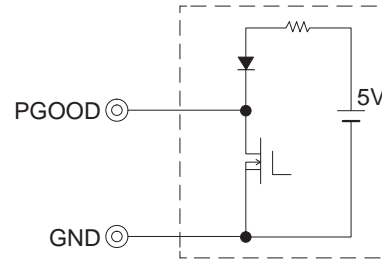

Fig.4.10 Internal PGOOD circuit
- PGOOD circuit is designed as shown in Fig.4.10.